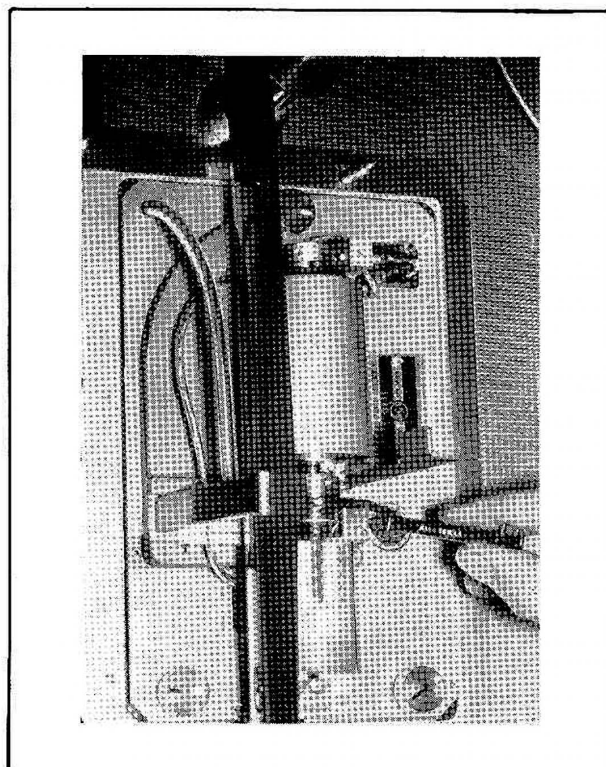

**Figure HWP-3B. Socket Head**
3. Insert a 3/32-inch socket wrench (MI-40769, Item 9) into the socket-head adjusting screw (figure HWP-3B). The adjusting screw is located on the front of the headwheel panel to the left of the vacuum guide and arm. If the scallops are concave to the right, turn the socket-head adjusting screw in a counterclockwise direction until the scallops disappear. If the scallops are concave to the left, turn the adjusting screw in a clockwise direction until they disappear.